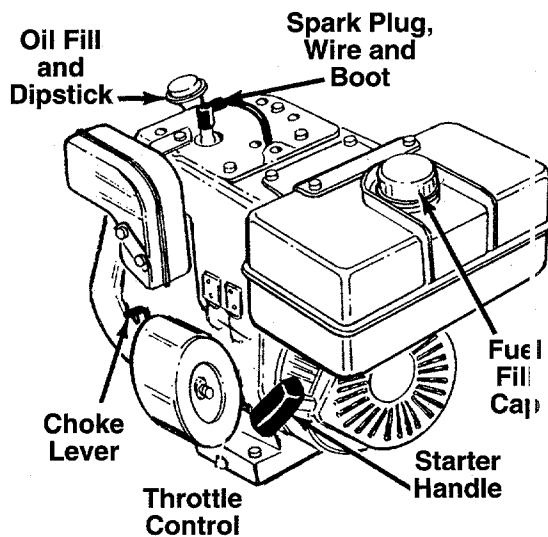

FIGURE 13.
MAKE CERTAIN THE SPARK PLUG WIRE IS DISCONNECTED AND MOVED AWAY FROM THE SPARK PLUG BEFORE ASSEMBLING THE CHIPPER-SHREDDER. REFER TO FIGURE 13, PAGE 10.
- Attach spark plug wire and rubber boot to spark plug. See figure 13.
- Place the throttle control lever in FAST position (UP).
- Grasp starter handle (see figure 13) and pull rope out slowly until engine reaches start of compression cycle (rope will pull slightly harder at this point). Let the rope rewind slowly.